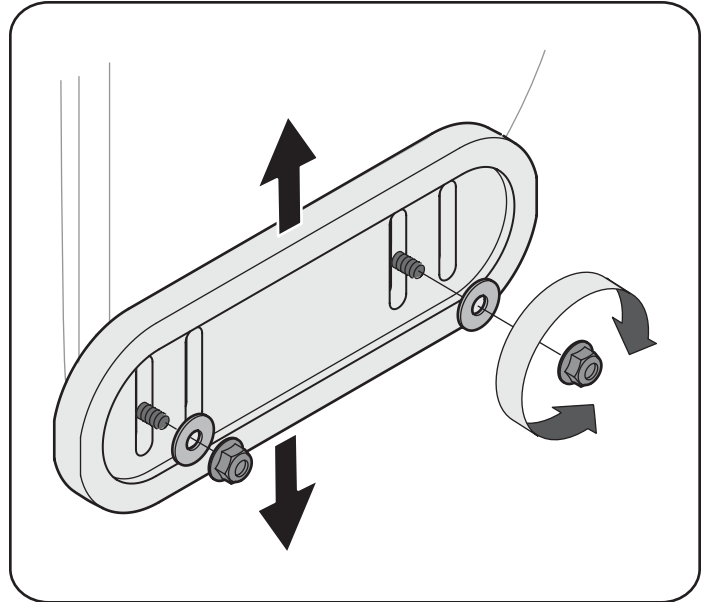
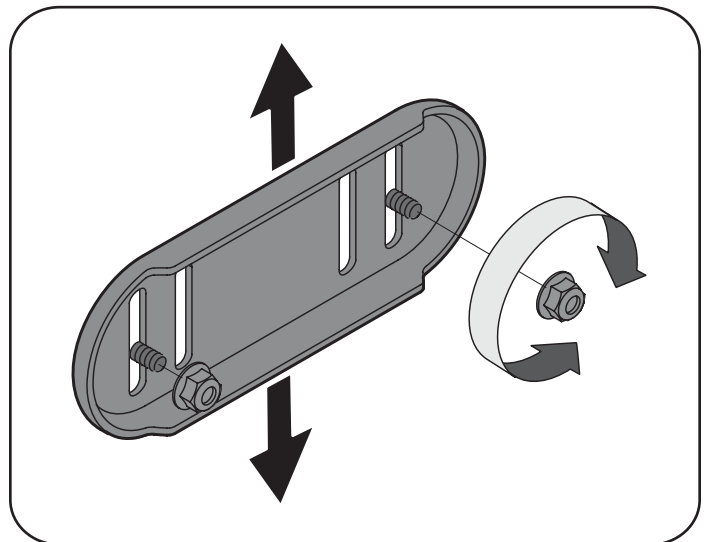

Figure 16 - Polymer Skid Shoe
Figure 17 - Steel Skid Shoe
1. Loosen the hex nuts, washers (if equipped) and carriage bolts. Move skid shoes to desired position. See Figure 16 and Figure 17.